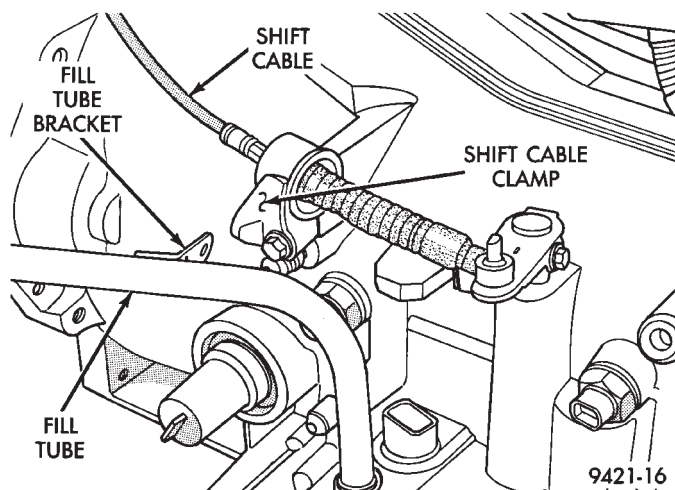

Fig. 20 Fill Tube Bracket Bolt Removal
(8) From underhood side of dash panel, unseat grommet and pull cable from interior of vehicle.
(9) Raise vehicle on hoist and unbolt fill tube bracket. Rotate fill tube to gain access to shift cable clamp (Fig. 20).